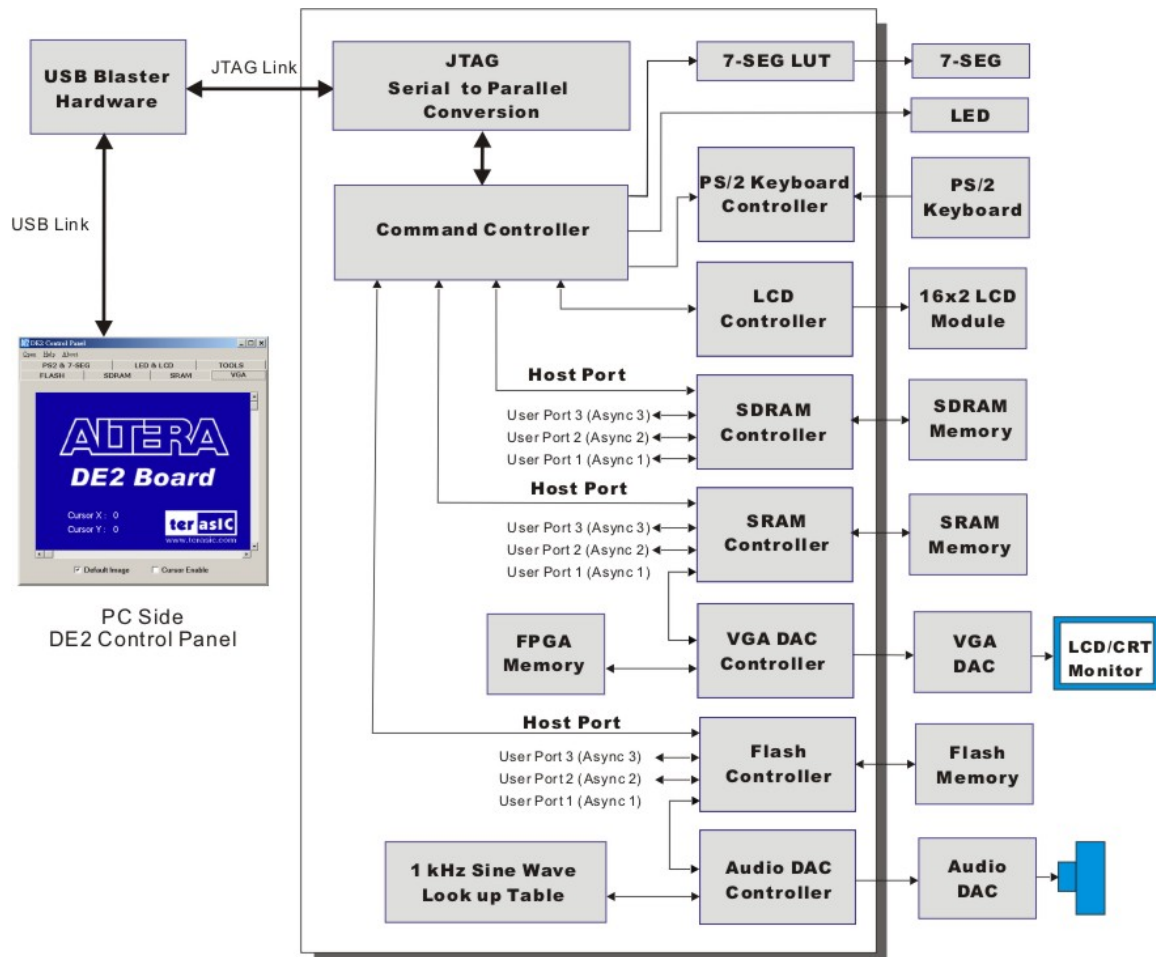

Figure 3.7. The DE2 Control Panel block diagram.
To run the Control Panel, the user must first set it up as explained in Section 3.1. Figure 3.7 depicts the structure of the Control Panel. Each input/output device is controlled by a controller instantiated in the FPGA chip. The communication with the PC is done via the USB Blaster link. A Command Controller circuit interprets the commands received from the PC and performs the appropriate actions. The SDRAM, SRAM, and Flash Memory controllers have three user-selectable asynchronous ports in addition to the Host port that provides a link with the Command Controller. The connection between the VGA DAC Controller and the FPGA memory allows displaying of the default image shown on the left side of the figure, which is stored in an M4K block in the Cyclone II chip. The connection between the Audio DAC Controller and a lookup table in the FPGA is used to produce a test audio signal of 1 kHz.
3. Select the Asynchronous 1 port for the Flash Multiplexer and then click on the **Configure** button to activate the port. You need to click the Configure button to enable the connection from the Flash Memory to the Asynchronous Port 1 of the Flash Controller (indicated in Figure 3.7).
6. Note that the Asynchronous Port 1 is connected to the Audio DAC part, as shown in Figure 3.7. Once you selected Asynchronous Port 1 and clicked the Configure button, the Audio DAC Controller will communicate with the Flash memory directly. In our example, the *AUDIO_DAC* Verilog module defines a circuit that reads the contents of the Flash memory